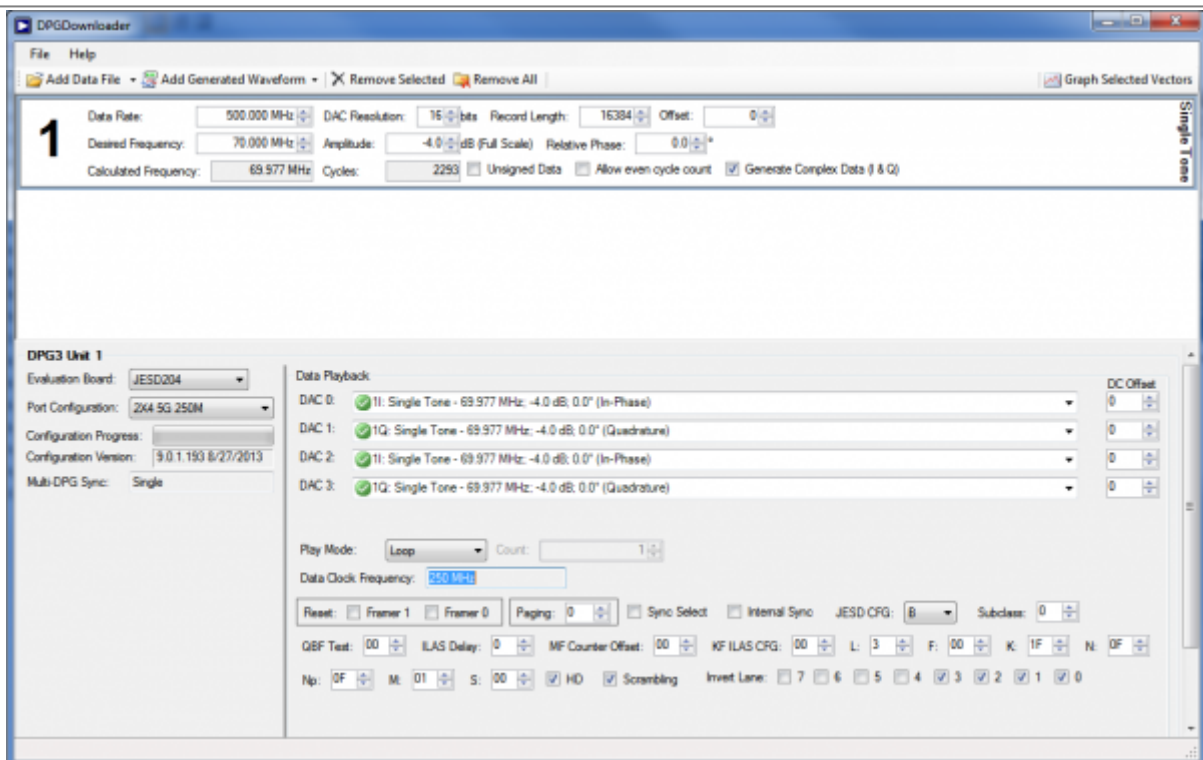

Figure 4. DPG Downloader sinewave vector
3. Click on “Add Generated Waveform”, and then “Single Tone”. As shown in Figure 4, a Single Tone panel will be added to the vector list. Enter the sample rate, in this case 500MHz and the desired frequency, 70MHz. Enter the digital amplitude. In this case we use -4dBFS. Check the “Generate Complex Data (I & Q)” box and uncheck the “Unsigned Data” box. Select the In-Phase data vector in the “DAC0” and “DAC2” drop down menu and the Quadrature data vector in the “DAC1” and “DAC3”.